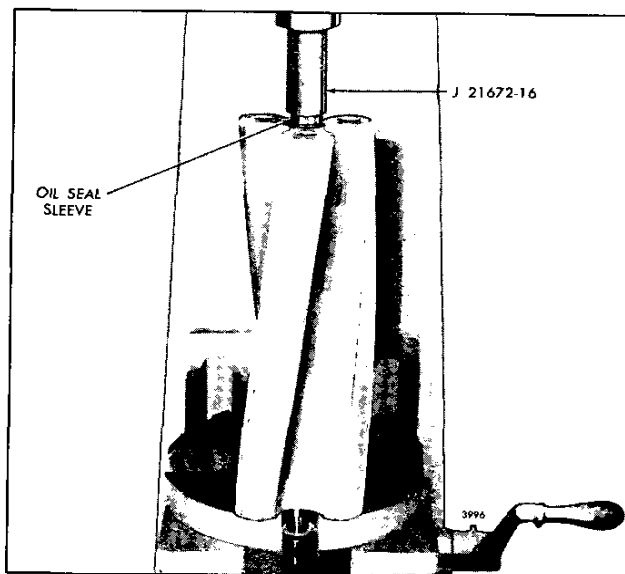

Fig. 12 - Installing Oil Seal Sleeve on Rotor Shaft
- a. Support the blower rotor, gear end up, on the bed of an arbor press as shown in Fig. 12.